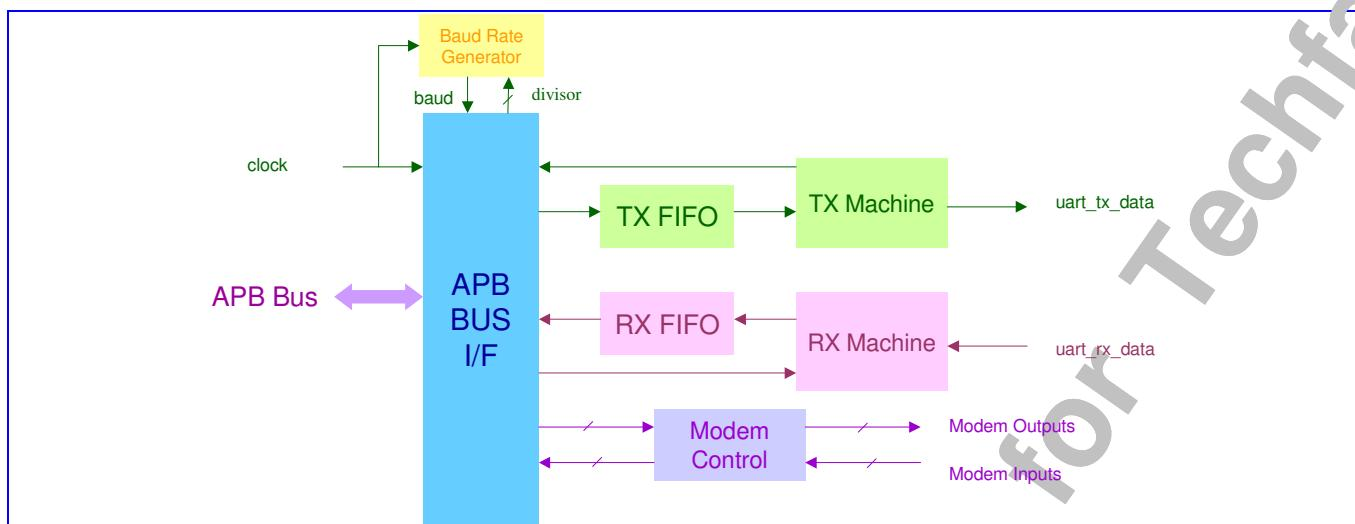

Figure 29 Block Diagram of UART
**Figure 29** shows the block diagram of the 6219 UART device.